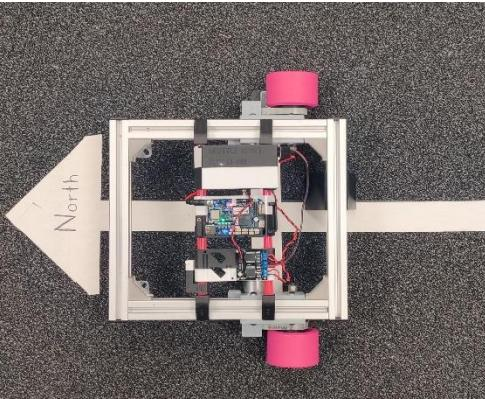
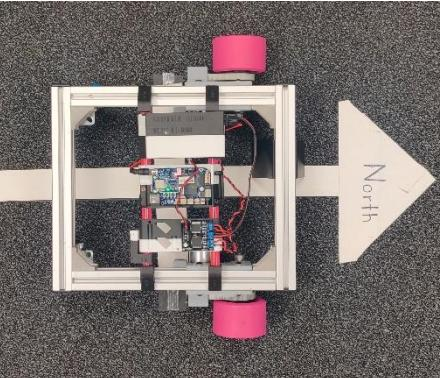

Figure 5
Figure 6
- Your printed value should look like the one shown in Figure 5 when heading North and as shown in Figure 6 when heading South.